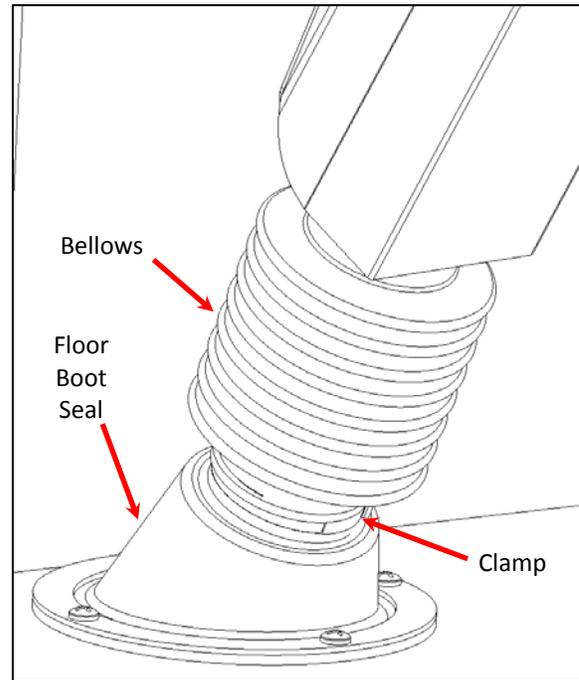

Fig. 7
1. Cut off bellows clamp on lower section of intermediate shaft if present. (Fig. 7)